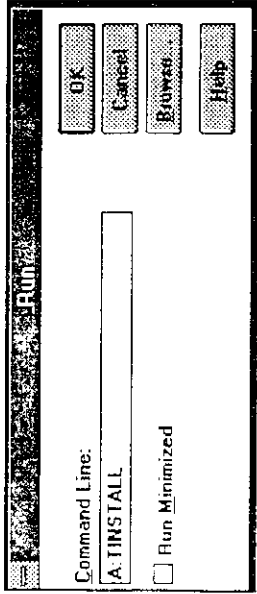

Figure 3-10.
- 5. TYPE in "A:TINSTALL" (if the display driver disk is in the B drive then TYPE in "B:TINSTALL") and then PRESS ENTER (see Figure 3-10).